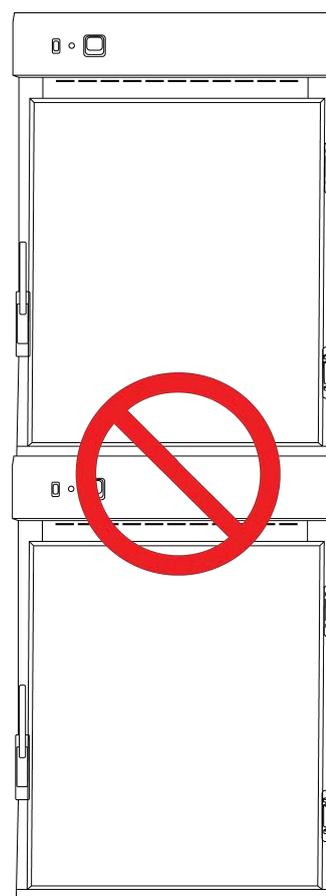

Fig 2.
- Under no circumstances should any ovens be stacked on top of each other (Fig 2).